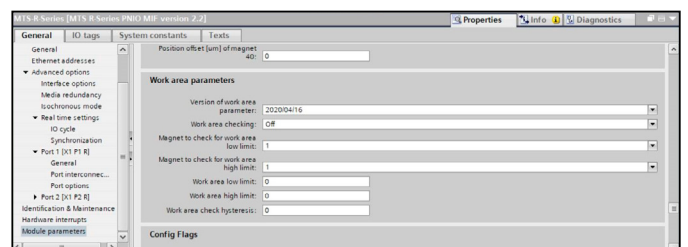

Fig. 45: Setting the switching points for the work area
- **Setting the switching points for input module „Sensor status 2“:** To read the information from the input module "Sensor status 2", drag this module into the "Device Overview" window. In the "Module parameters" section of the sensor, you can set the parameters for switching points under "Work area parameters" (Fig. 45):